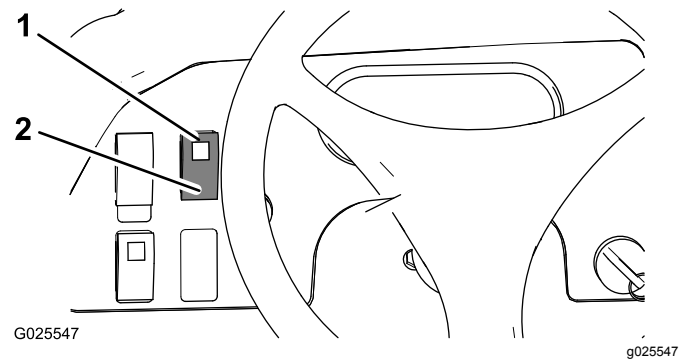

Figure 24
- Press the differential-lock switch up to lock the differential (Figure 24).
- Press the differential-lock switch up to unlock the differential (Figure 24).